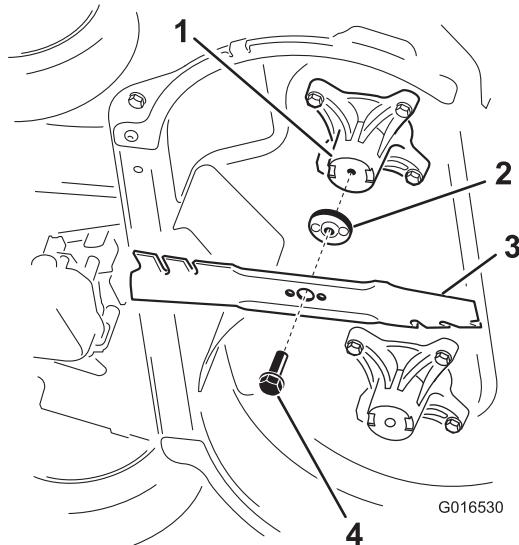

Figure 37
- Remove each blade as shown in Figure 37.
1. Install the first blade so that it is horizontal, along with all mounting hardware as shown in Figure 37.